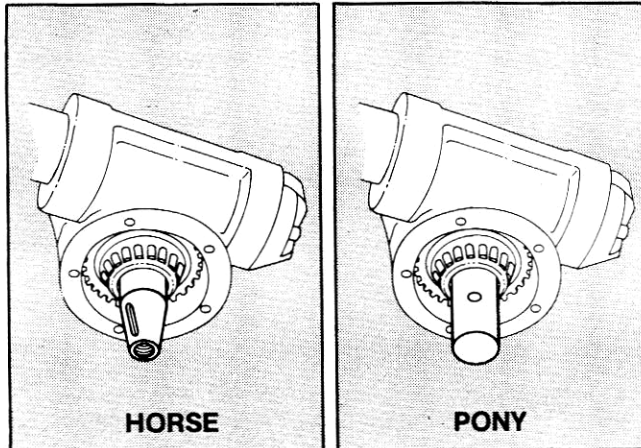

Figure 1
A. Before replacing tiller shaft oil seals, inspect the keyway or tine mounting holes for burrs or sharp edges which could cut a new seal. File rough spots, if necessary, and clean the shaft thoroughly. See Figure 1.